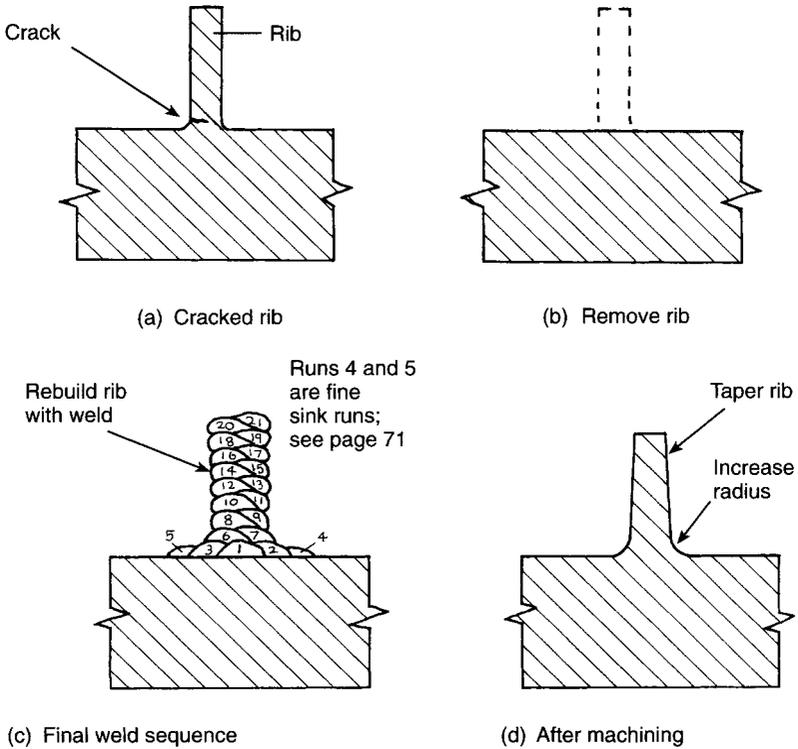
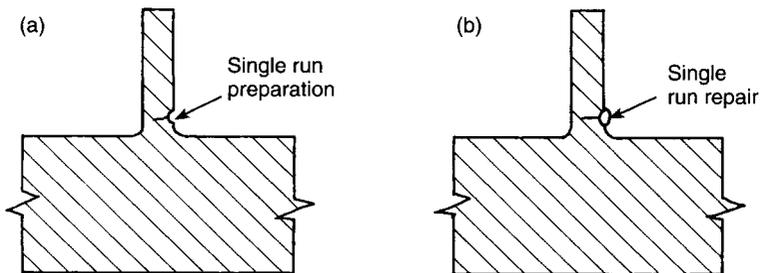

Fig. 6.16
Fig. 6.17
**Solution 8a** Remove and rebuild rib; see Fig. 6.16.
**Solution 8b** Prepare and weld; see Fig. 6.17 and 6.18.
If you think that the repair in Fig. 6.16 is a little extreme, then a temporary repair may be more suitable; see Fig. 6.17.
**Solution 10a** Temporary repair by preparing crack and welding; see Fig. 6.17.